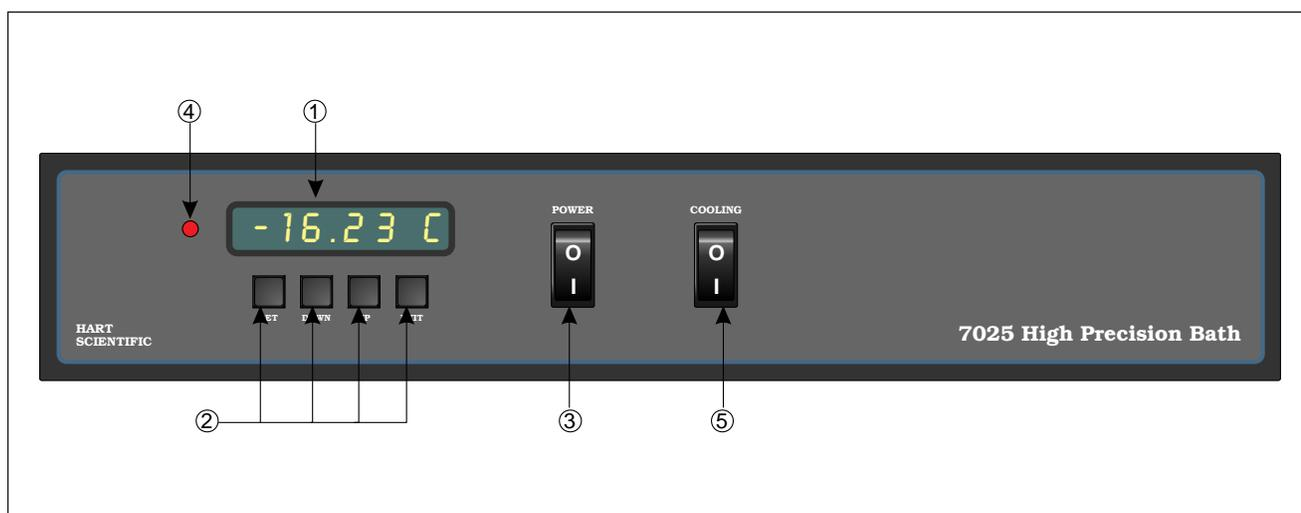

Figure 2 Front Panel Features
The following controls and indicators are present on the controller front panel (see Figure 2 below): (1) the digital LED display, (2) the control buttons, (3) the bath on/off power switch, (4) the control indicator light, and (5) the cooling on/off switch.